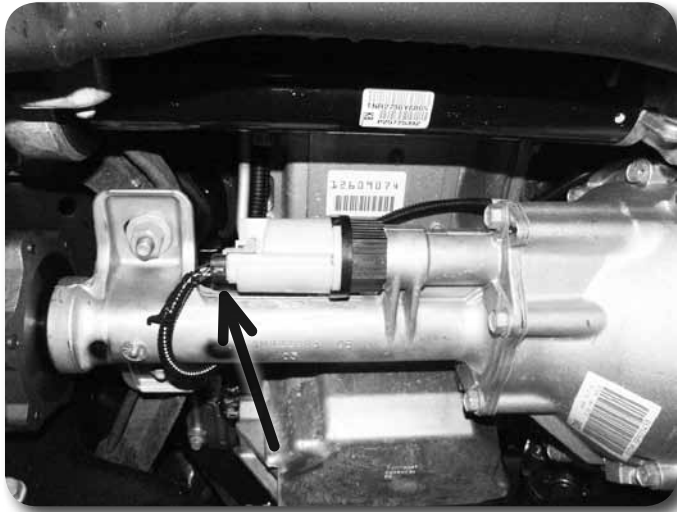

Figure 10
18. Disconnect the differential actuator wire connector from the actuator **Figure 10**. Remove the three wire harness clips holding the actuator harness to the differential housing.
22. Support the front differential with an appropriate jack. Remove the two driver's side differential mounting bolts **Figure 13** and the two passenger's side mounting nuts **Figure 10**. Carefully lower the differential to the ground. Save mounting hardware.